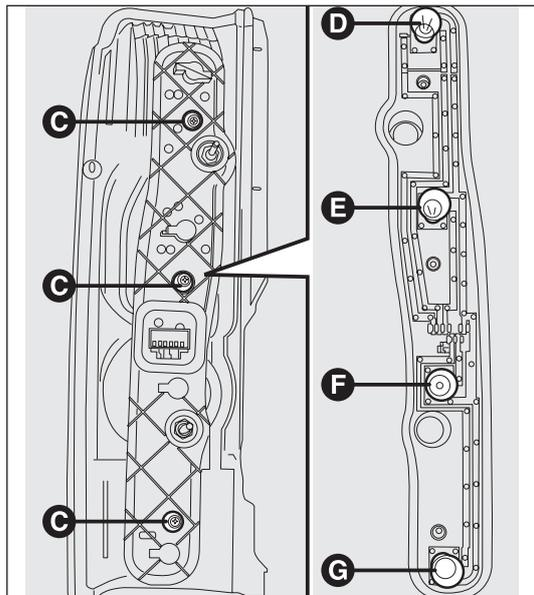

fig. 191
- undo the screws C-fig. 191 using the screwdriver provided and remove the bulb holder;